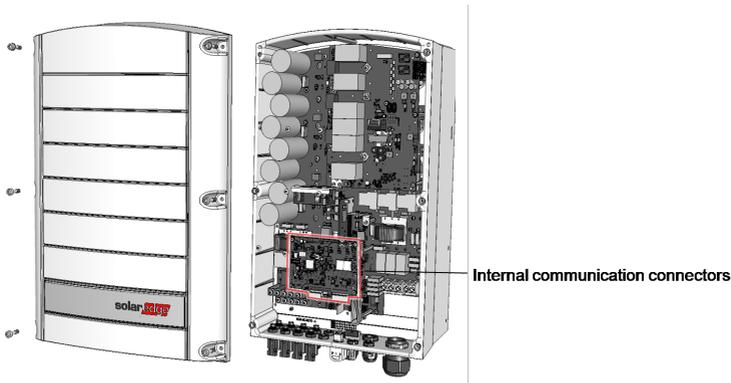

Figure 21: Accessing the Internal communication connectors
5. Open the inverter cover (see *Figure 21*).